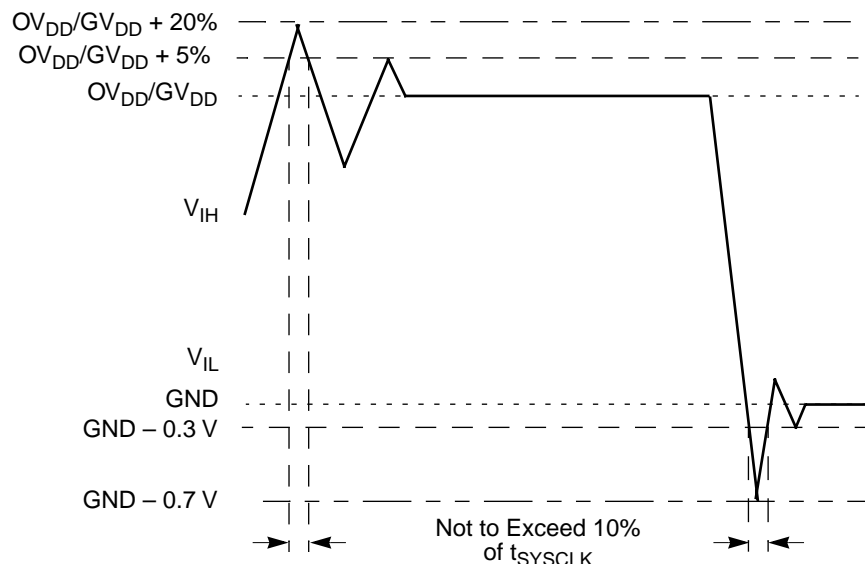

Figure 2. Overshoot/Undershoot Voltage
- V_{in} may overshoot/undershoot to a voltage and for a maximum duration as shown in Figure 2.
Figure 2 shows the overshoot and undershoot voltage on the MPC7455.